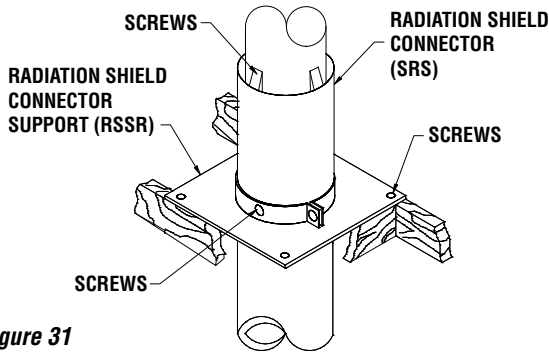

Figure 31
- Slide a flexible shield (FS) on top of that length all the way to the bottom.
- At the ceiling level from the top, install a Radiation Shield Connector (SRS) and a Radiation Shield Support (RSSR) attach but not tighten together. (see **Figure 31**).